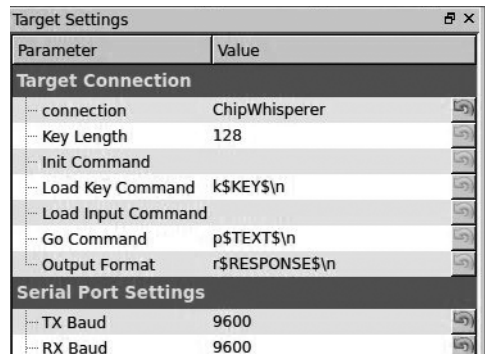

Figure 8-11: Setting Connection and Baud
2. Switch to the Target Settings tab (at the bottom of the window), and change the Connection setting to **ChipWhisperer**. Then under Serial Port Settings, set both TX Baud and RX Baud to **9600**, as shown in Figure 8-11.